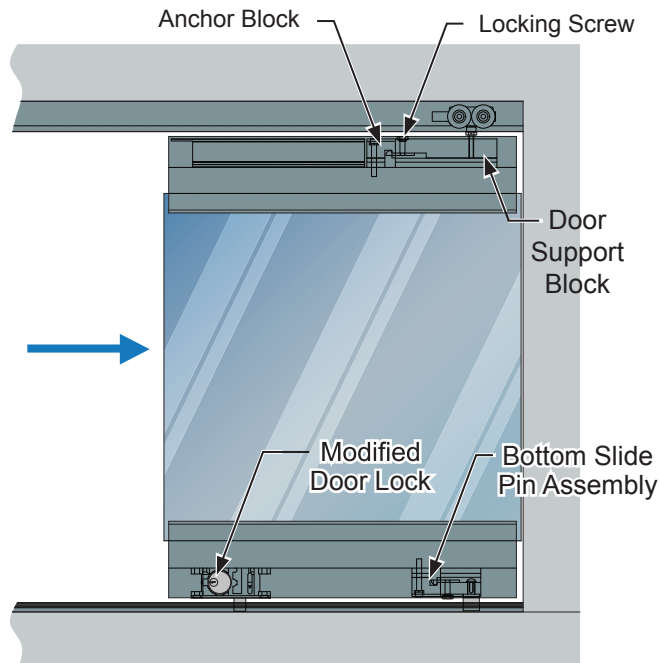

Fig. 15
2. Align the end of the top rail with the door support block. Slide the door support block into the top rail until it contacts with the anchor block. While maintaining contact, tighten the locking screw. **(Fig. 15)**